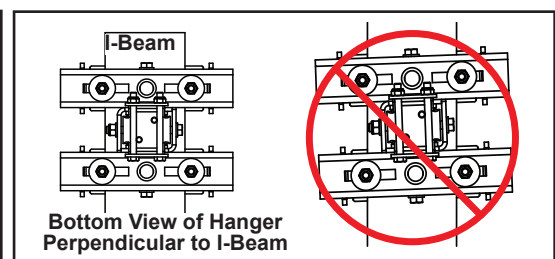

Figure 3-33B
- Step 7. Ensure I-beam bracket is perpendicular to I-beam lower flange. See Figure 3-33B below.